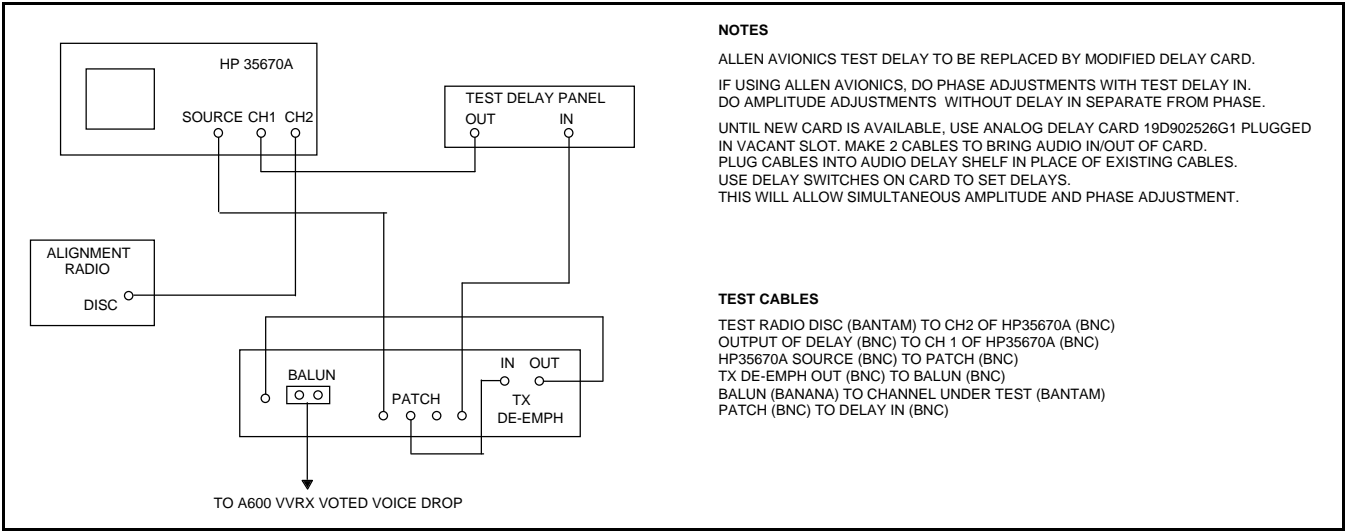

Figure 9 - Simulcast Alignment Test Setup Using HP 35670A Sweep Analyzer
- 2. Set up cabling between HP 35670A, Delay Panel, Test Radio, and Balun Panel as shown in Figure 9.